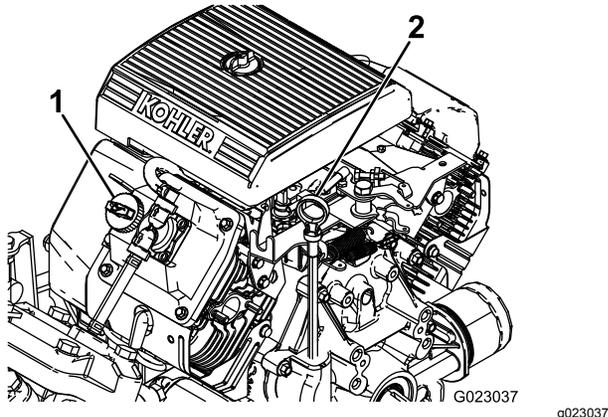

Figure 11
2. Remove the dipstick and wipe it with a clean rag (Figure 11).
4. If the oil level is low, remove the filler cap from the valve cover (Figure 11) and pour oil into the opening until the oil level is up to the Full mark on the dipstick; refer to Servicing the Engine Oil \(page 41\) for the proper oil type and viscosity. Add the oil slowly and check the level often during this process. Do not overfill.